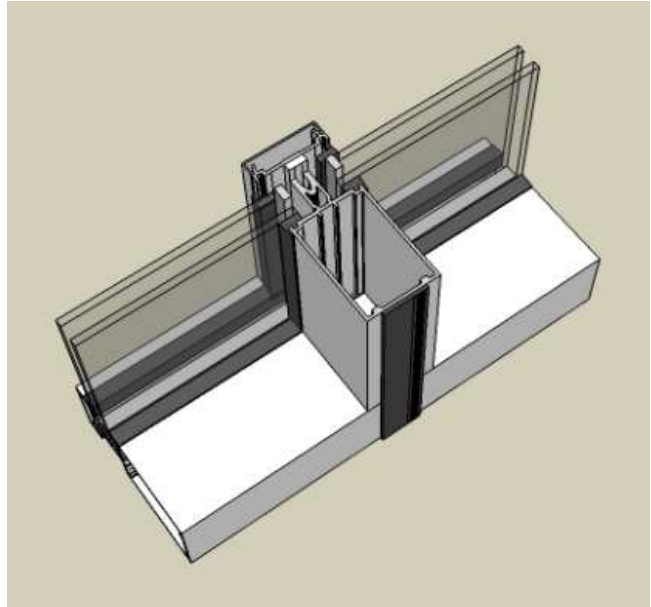

Figure 1: Adhere Mullion Seal to Mullion
3. Remove cover strip over adhesive from side facing mullion **only**. *Take care to remove cover strip without peeling the adhesive from the rubber.* Firmly set in place (Fig. 1). A roller is recommended; bond will increase with pressure and time.